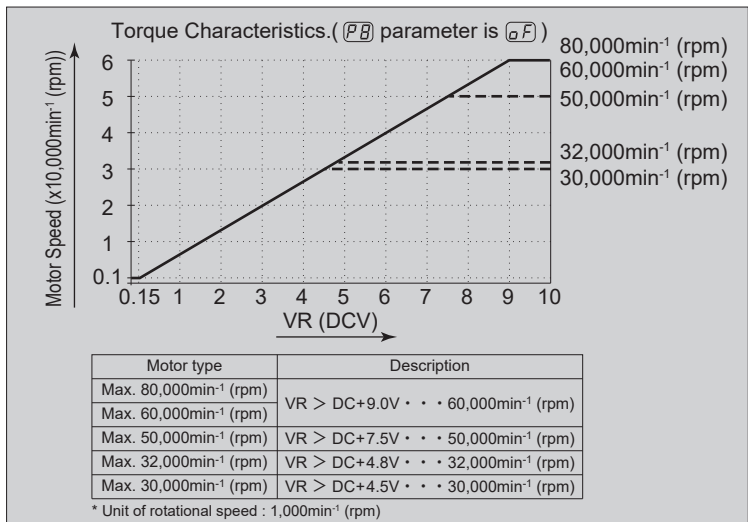
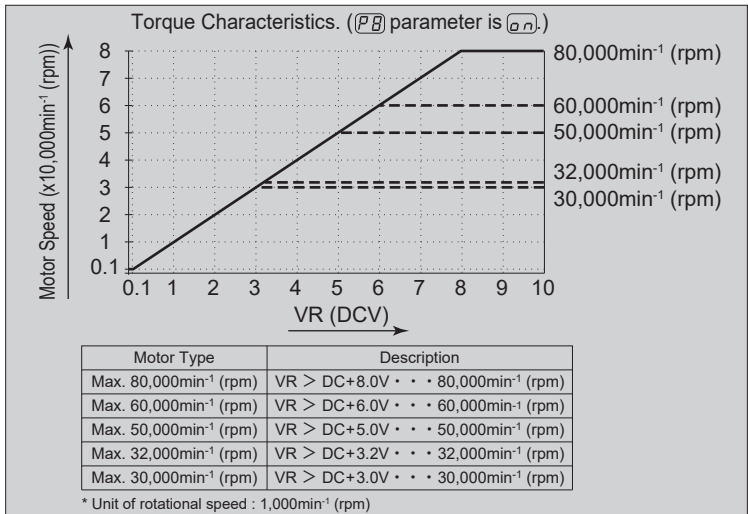

Fig. 45
Fig. 46
- The Fig. 45 are Characteristics of the VR and rotation speed by parameter **P8** set to **0F**. The Fig. 46 are Characteristics of the VR and rotation speed by parameter **P8** set to **00**.